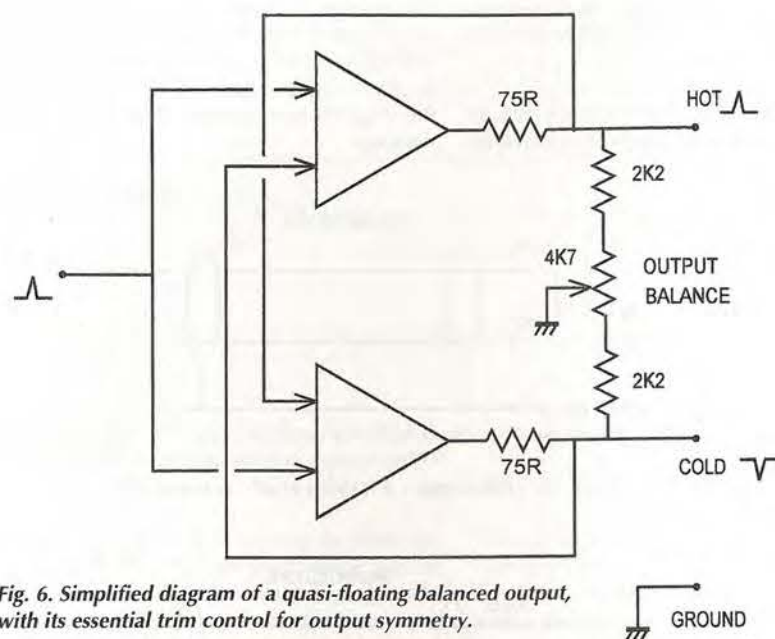

Fig. 6. Simplified diagram of a quasi-floating balanced output, with its essential trim control for output symmetry.
**Quasi-floating output.** This kind of output, Fig. 6, approximately simulates a floating transformer winding; if both hot and cold out-
Quasi-floating outputs use a rather subtle circuit with an intimate mixture of positive and negative feedback of current and voltage. This performs the required function admirably; its only drawback is a tendency to accentuate circuit tolerances, and so a preset resistor is normally required to set the outputs for equal amplitude; the usual arrangement is shown in Fig. 6.